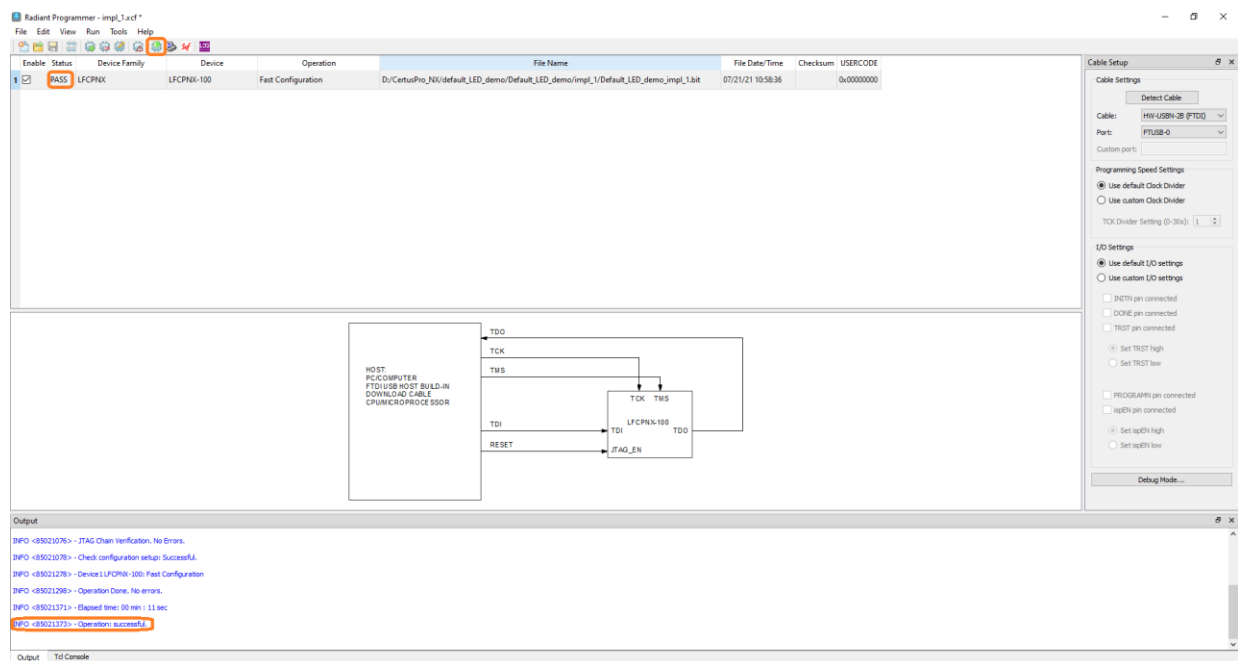

Figure A.5. Radiant Programmer – Fast Configuration Pass
- d. To program the bitstream file, click the **Program** button in the Lattice Radiant software as shown in Figure A.5. If the programming is completed successfully, the **Status** column shows **PASS**. The **Output** pane also shows **INFO – Operation: successful**. The bitstream is downloaded into internal SRAM.